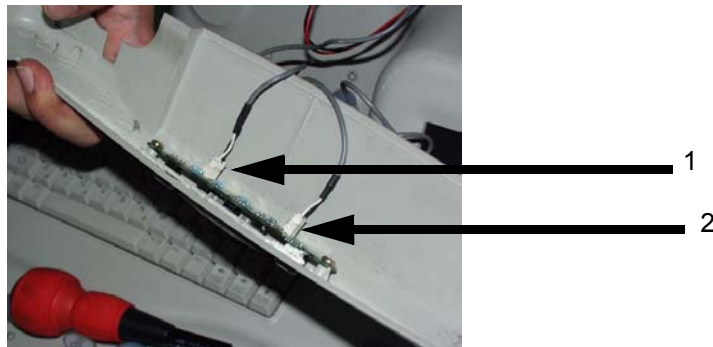

Figure 8-10 Disconnecting 2 cables
- 2.) Disconnect two connectors (1-2). Refer to Figure 8-10 on page 8-8 .